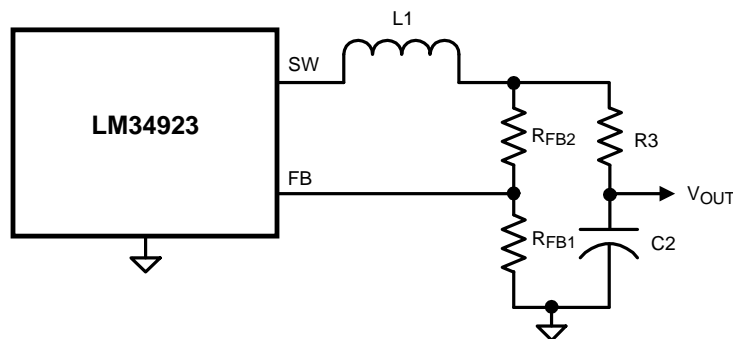

Figure 38. Alternate Minimum Output Ripple
c) Alternate minimum ripple configuration: The circuit in Figure 38 is the same as that in the Block Diagram, except the output voltage is taken from the junction of R3 and C2. The ripple at V_{OUT} is determined by the inductor's ripple current and C2's characteristics. However, R3 slightly degrades the load regulation. This circuit may be suitable if the load current is fairly constant.